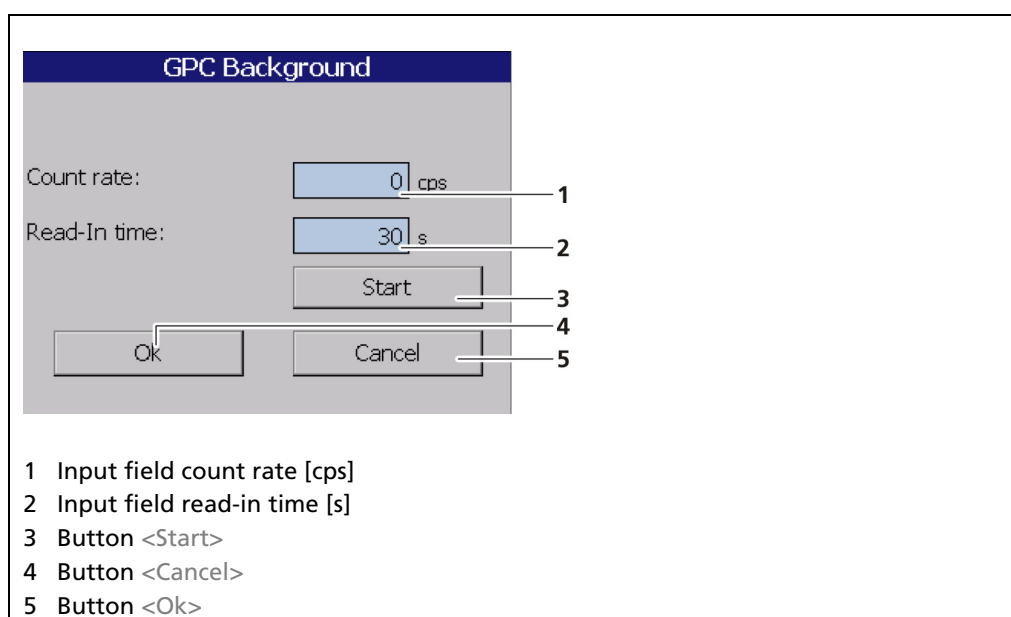

Fig. 96 GPC calibration background
- ▶ A new window "Background" opens to determine the background radiation (Fig. 96).
The value of the count rate can be entered manually (Fig. 96, item 1) if a determination of background radiation without foreign radiation effects is not possible.